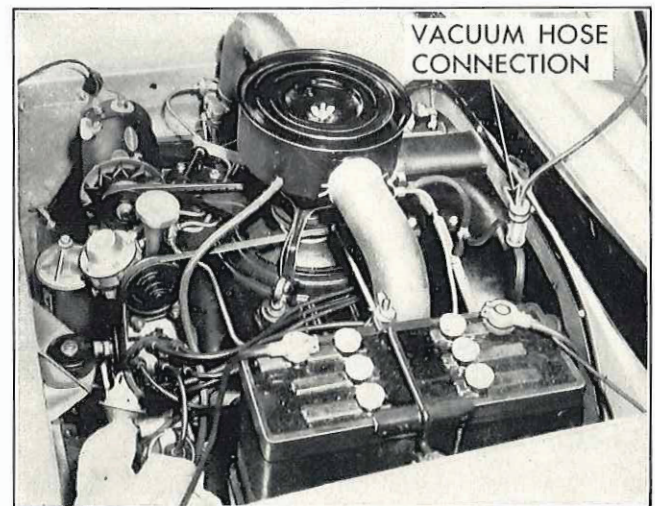

Fig. 4—Vacuum Hose Connection—Powerglide
- a. Vehicles equipped with automatic transmissions, remove modulator line at "Tee" fitting, then attach vacuum gauge hose (fig. 4).